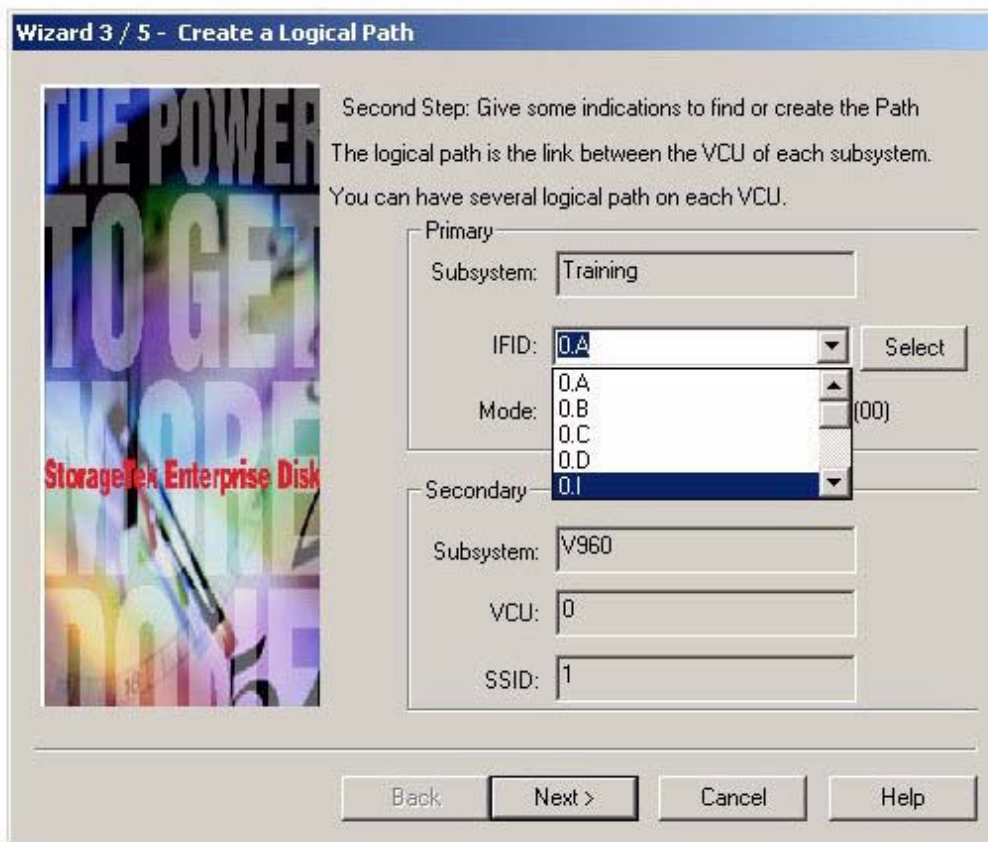

Figure 17 Interface Configuration Selection
- The dialogue box of Figure 17 appears. Select the IFID path with the interface cables being dedicated to PPRC operation in the primary